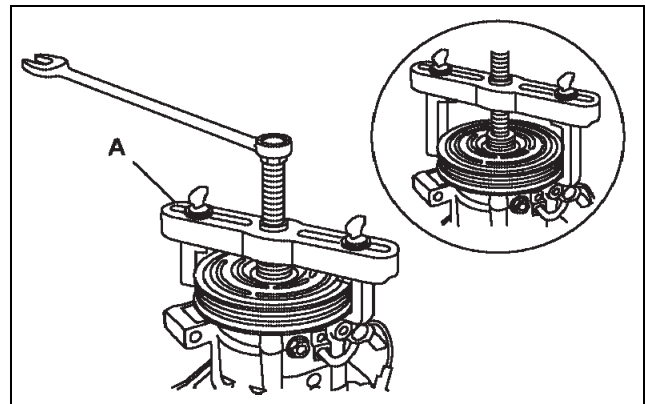

Figure 6
4. Remove the compressor pulley assembly using a suitable tool (A) as shown (Figure 6).